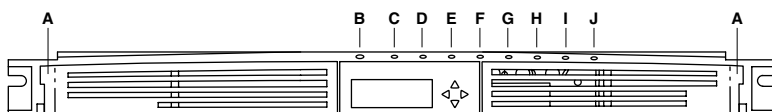

Figure 1
1. Grasp the pull tab on the right end of the hinged bezel door (See Figure 1).